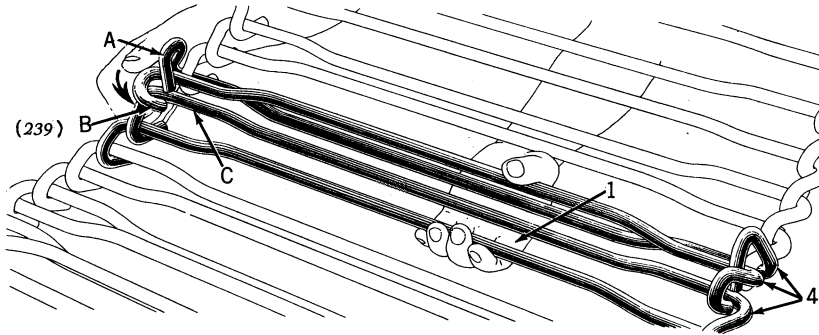

Figure 10
1. (Figure 10) Grasp the two last links of one end of the elevator with the thumb of the **LEFT**-hand and the two last links of the other end of the elevator with the fingers of the **LEFT**-hand and draw the four links together.
2. (Figure 10) Place the links "A", "B", and "C" in the position shown.
3. (Figure 10) With the thumb of the **RIGHT**-hand turn link "B" over link "C" in the direction of the arrow which will automatically connect all three links.
4. (Figure 10) When links "A", "B", and "C" are connected, maintain the relative position of the links by holding same with the **RIGHT**-hand instead of the **LEFT**. Then proceed with the **LEFT**-hand to connect the other ends of the links at "4" following the same procedure as in steps 2 and 3 above.